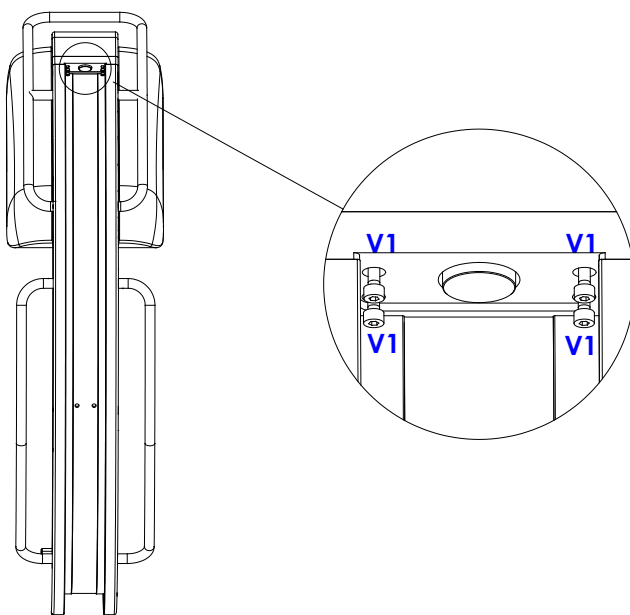
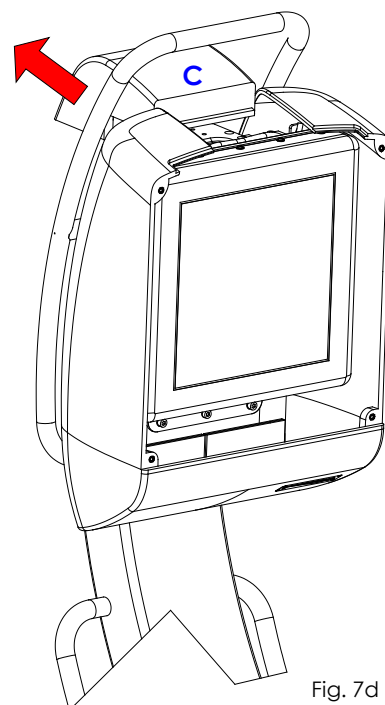

Fig. 7c
Fig. 7d
- Undo the 4 screws (V1) (Fig.7c) and then remove the counterweight (C) (Fig.7d).